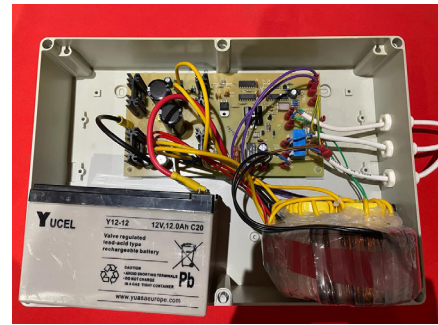

fig.6
- 5** Place the battery so it sits on the bottom of the battery backup system and then connect the spade connectors positive red wire to positive red terminal and negative black wire to negative black terminal (**fig.6**).